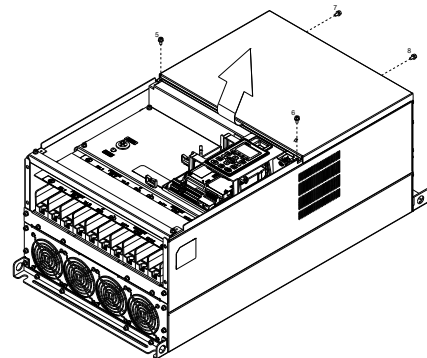

Figure 2
2. Loosen the screw (figure 2) and remove the cover. Screw torque: 24–26 kg-cm / [20.8–22.6 lb-in.] / [2.4–2.5 Nm]